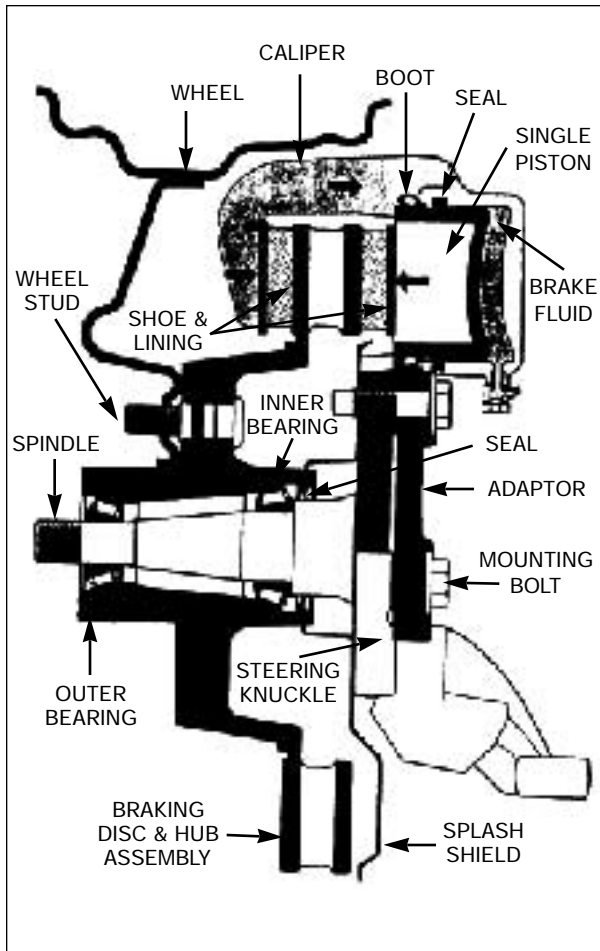

Fig. 3
4. Another type of caliper uses a single piston on one side only. This caliper is free to slide sideways to allow brake pads to align with disc. This is also known as a floating caliper (see Fig. 3).